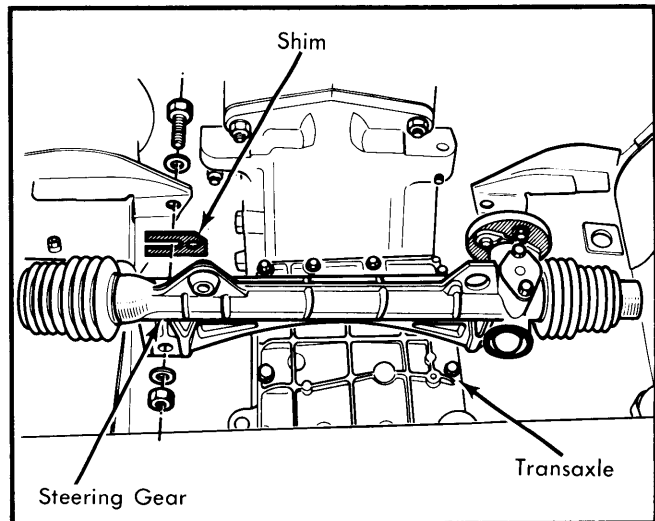

Fig. 2 Shim Position on R5
4) Slotted shims are used to adjust steering gear. Position of slot in shim varies to move gear up and down. To replace or adjust shims, remove transaxle cover. Loosen steering gear bolts and remove adjusting shims. See Fig. 2.